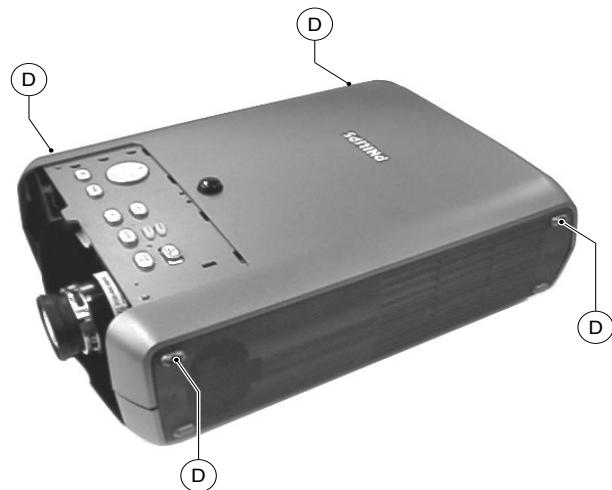

Fig. 3
3. Remove the 4 screws (D) holding the top cover (Fig. 3). If the 4 screws are removed, the top cover can be lifted off. Please be careful not to pull off the cable to the keyboard.